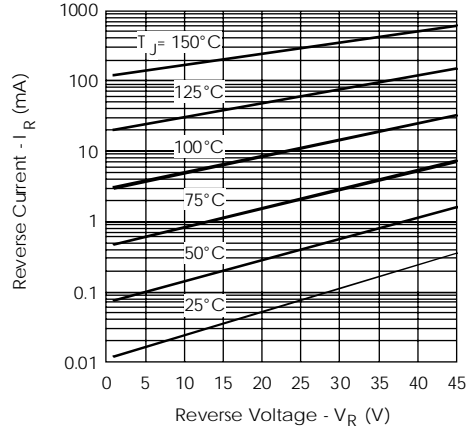

Fig. 2 - Typical Values Of Reverse Current Vs. Reverse Voltage (Per Leg)
| I_{RM} Max. Reverse Leakage Current (Per Leg) * See Fig. 2 (1) | 5 | mA | $T_J = 25^\circ\text{C}$ |